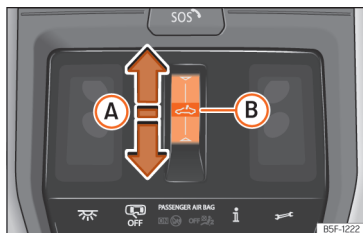

Fig. 85 On the interior roof lining: sunroof button.
- Automatic movement: slide your finger back over the functional area  **»» Fig. 85 (A)**.
- Before approx. 5 seconds after activation of the anti-trap function, slide your finger forward over the functional area  **»» Fig. 85 (A)** and keep pressed until the sunroof is fully closed.